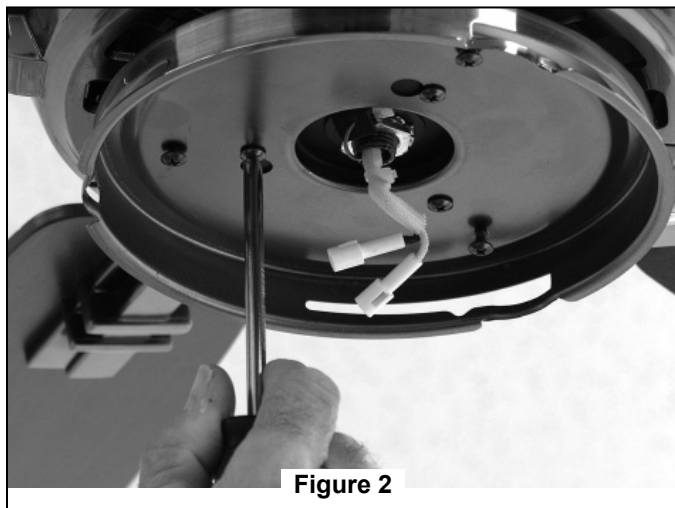

Figure 2
4. With a Phillips screwdriver, tighten washer-head screws with fiber washers. Do not over-tighten. (Figure 2)
2. Securely attach the Adapter Plate to the Support bracket and tightening three screws. (Figure 2)